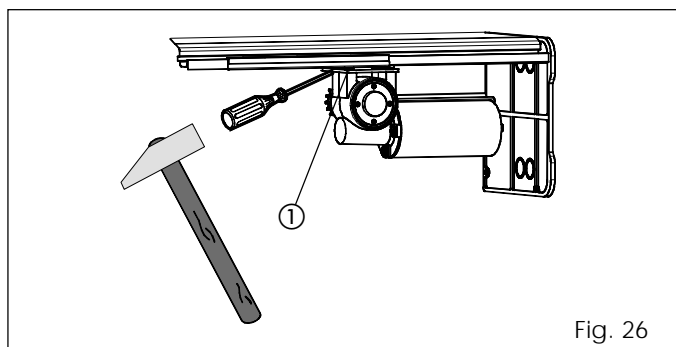

Fig. 26
- Slightly loosen the four fixing screws (fig. 26 ref. ①) of the second motor.
- Push the motor unit outwards using a hammer as shown in fig. 26.